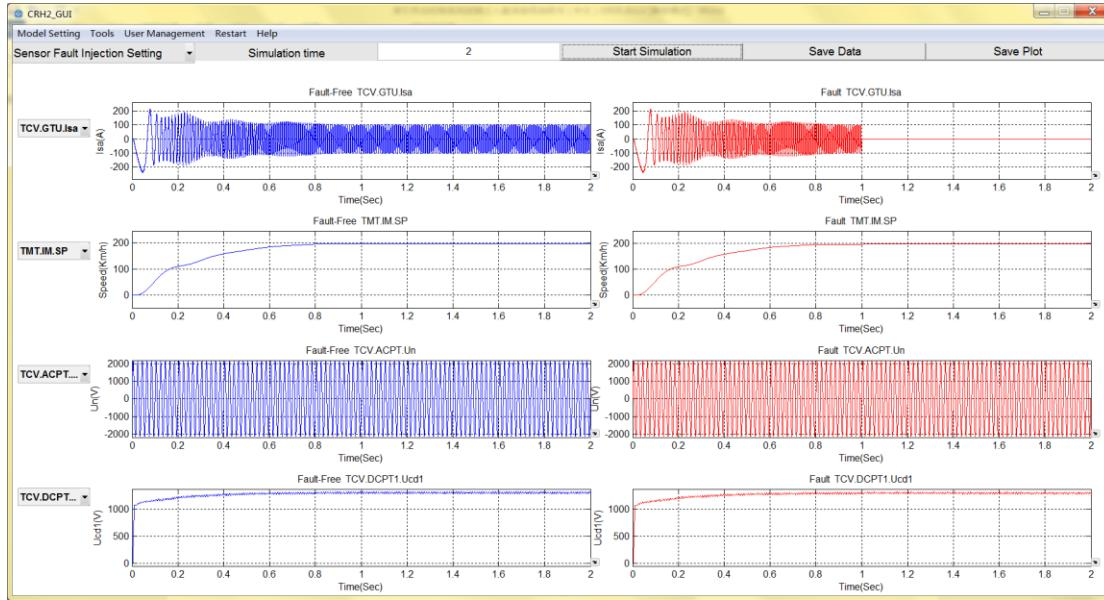

Fig. 56 Simulation waveform
⑦Output simulation waveform, the left is the normal waveform, the right is the fault waveform, as shown in Fig. 56.